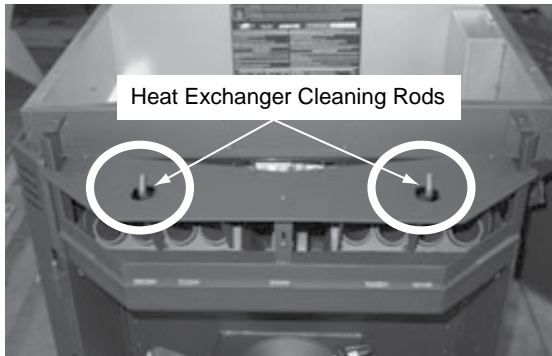

Figure 4.1
1. Lift the hopper lid to access the cleaning rods. Both black bent handle pull rods are located close to the face of the appliance to the left and right side. **Figure 4.1.**